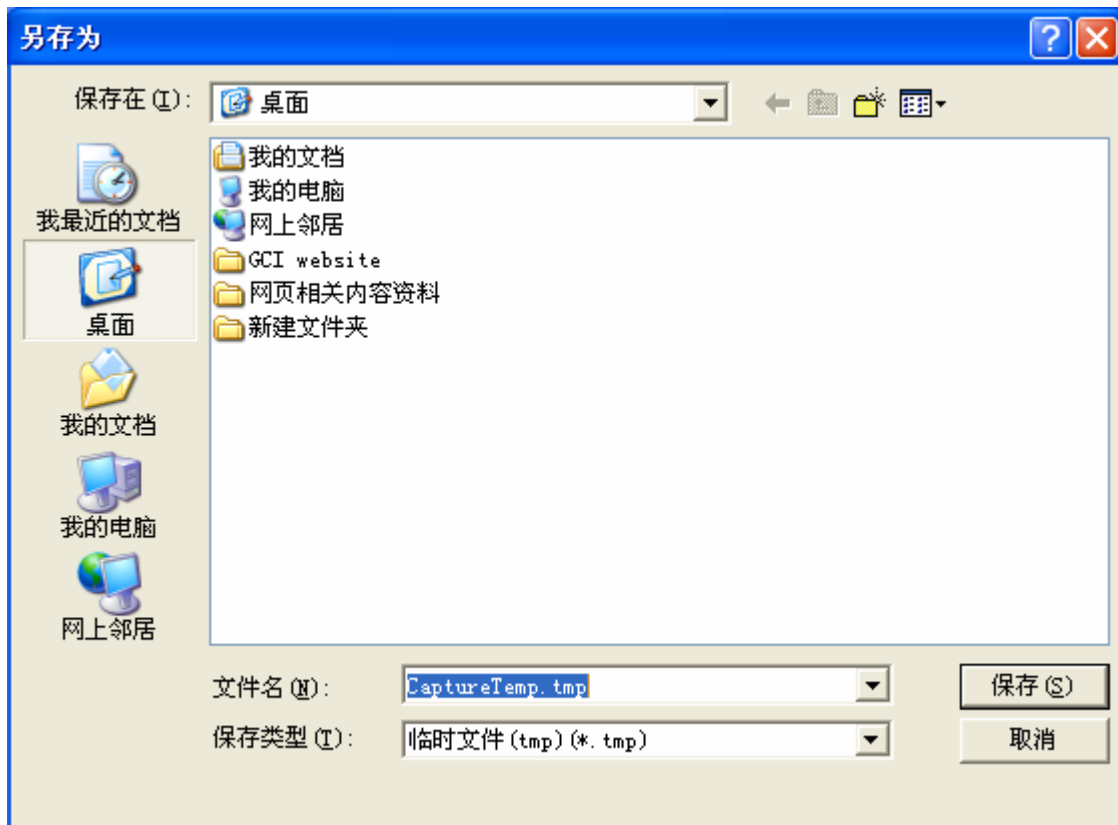

Figure 8: Save temp file
2. Press the first “browse” in the TempFile, find a route to save the temp file, see Figure 8.